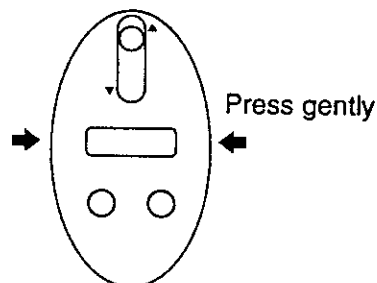

Fig. 2
⑩	Appearance defective	—	Replace parts
- See Fig. 2.** Gently press both sides of bottom case for easy removal.